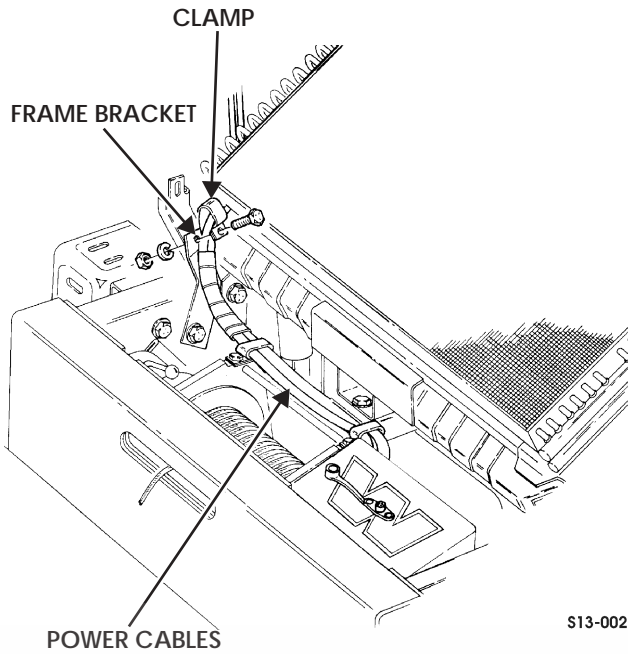

Figure 13-2: Frame Bracket
3. Remove nut, lockwasher, capscrew, and clamp from frame bracket. Discard lockwasher. Pull winch cables to front of vehicle (Figure 13-2).
8. Install winch cables on frame bracket with clamp, capscrew, lockwasher, and nut (Figure 13-2).